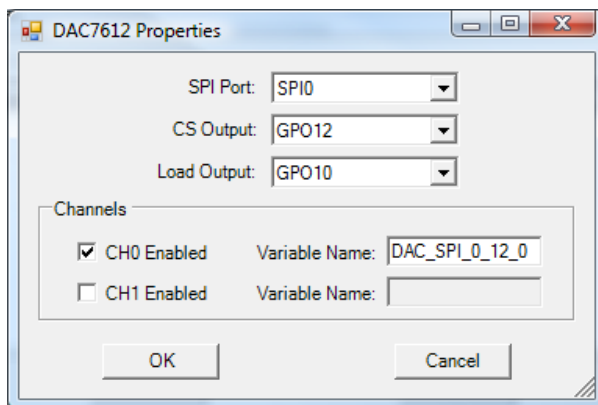

Figure 15-14
Select the SPI port from the drop down menu. Select the general purpose output pin (GPO) that will serve as this device's chip select (CS) and select the Load Output pin (GPO) that will serve to control the D/A device loading. With these devices selected, additional channel information will be available to configure. See Figure 15-14.
The DAC7612 supports up to 2 D/A channels. Using the provided check box, select the actual channels that will be used in the ladder diagram project. For each enabled channel, a default Variable Name is automatically created. This name may be changed in the variable name box at this time. See Figure 15-14.